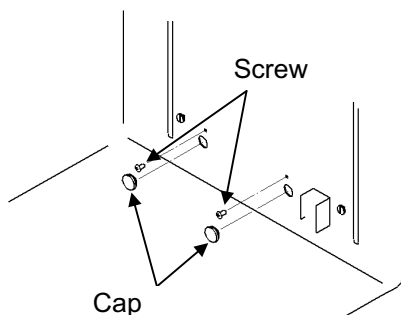

Fig. 1
2. Remote the duct from inside the unit, then take 2 caps and 2 screws off as shown in Fig.1